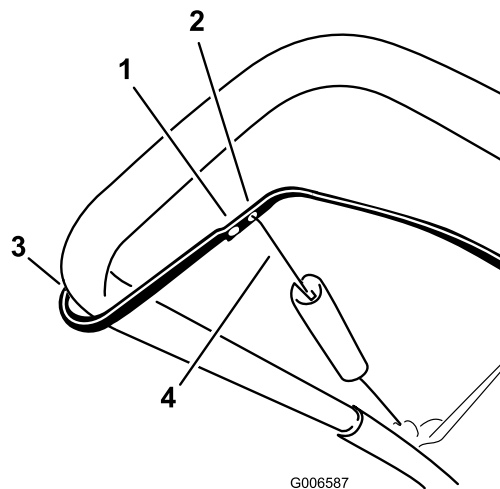

Figure 26
**Note:** After extended use, the drive belt may wear and lose its proper belt tension. If the drive belt slips (continuously squeals) under a heavy load, disconnect the spring from the adjuster link and move the upper end of the spring to the hole that is further from the pivot point in the control bar (Figure 26). Then connect the spring to the adjuster link and adjust the control cable.